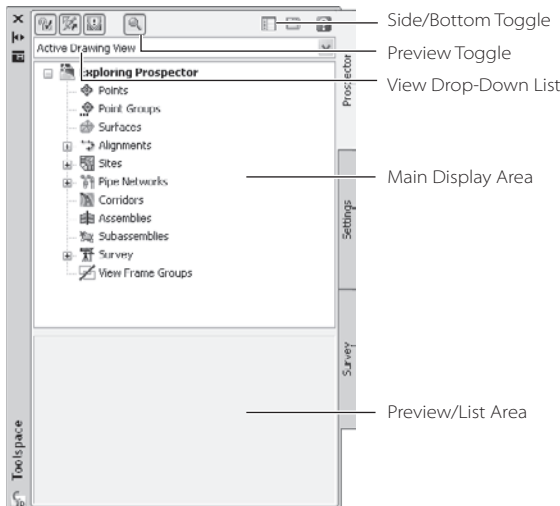

Figure 1.5
3. Change the view selection to Active Drawing View to turn off the extraneous information for now. Your Toolspace should look something like Figure 1.5.
10. Click the Side/Bottom toggle as indicated in Figure 1.5 and note that the list area jumps from the bottom of your palette to the side as shown in Figure 1.7.